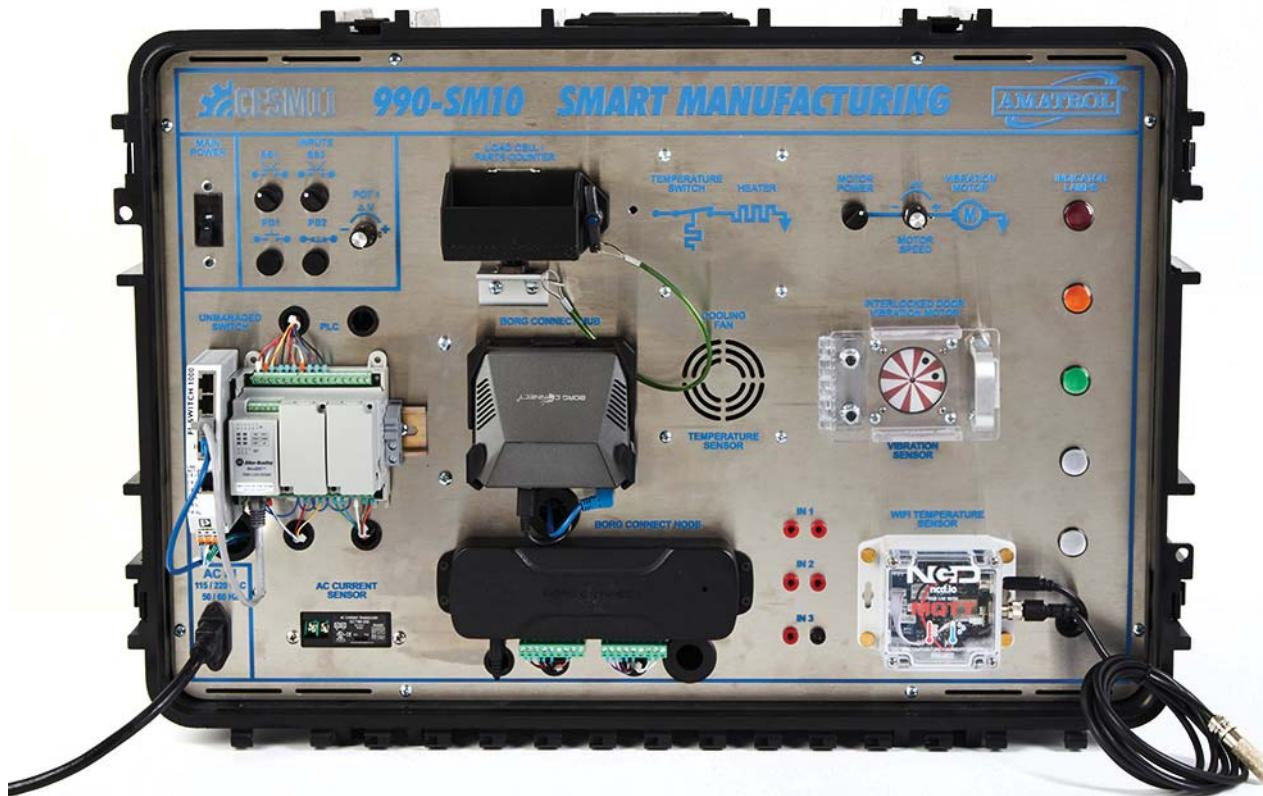

Figure 1-1. 990-SM10 Smart Manufacturing System
1. Position yourself in front of the 990-SM10 Smart Manufacturing system as shown in Figure 1-1.